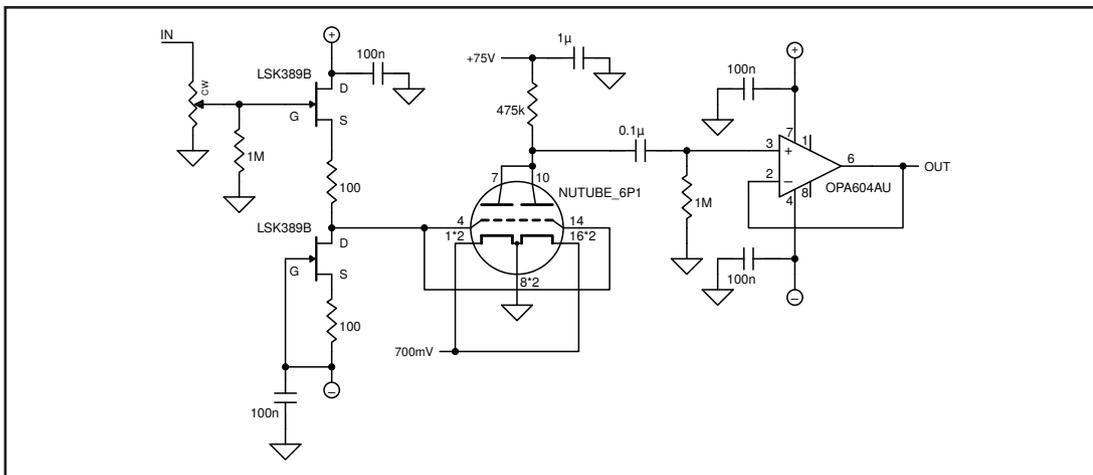

Figure 5: This is an example of a split-supply application.
**Figure 5** shows another example. In this circuit, ±18 V supplies are used, as well as a higher voltage B+ voltage for the plate (in this case, about 75 V). Both triode sections are connected in parallel, to increase gm and lower the noise level. A DC-coupled JFET follower is used to directly drive the grid at zero bias, and an op-amp is used to buffer the output.